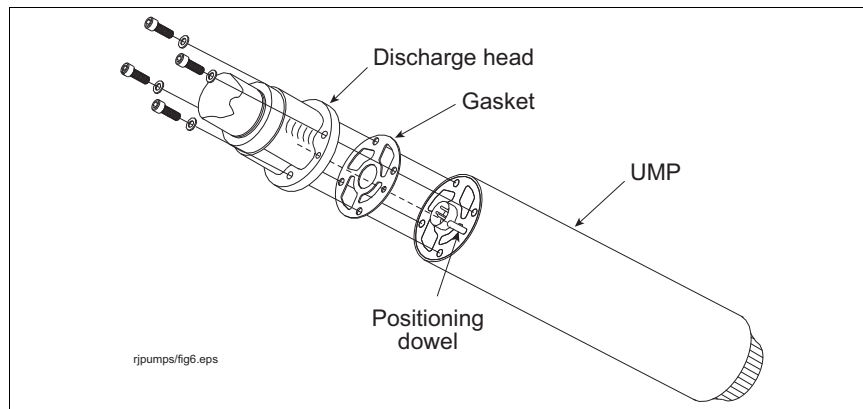

Figure 23. UMP Bolts And Gasket
4. Remove the old UMP by removing the four bolts holding the discharge head as shown in Figure 23. Discard the old gasket and fasteners.
4. Remove the UMP by removing the four bolts holding the discharge head as shown in Figure 23 on page 25. Discard the old gasket and fasteners.